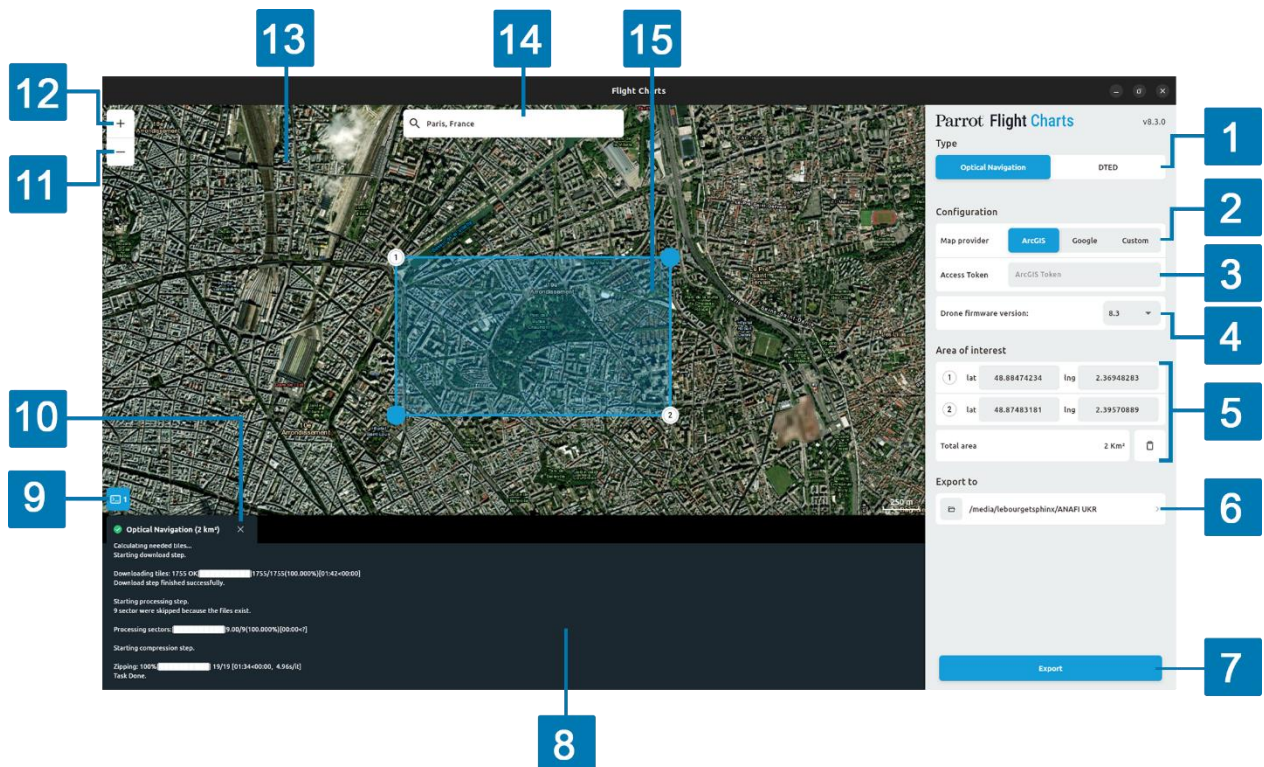

Figure 28: FlightCharts interface
1. Select the map **Type** (No. 1 in Figure 28) to create either an **Optical Navigation** map, or a **DTED** map.
- i. Under **Configuration**, select your **Map provider** (No. 2 in Figure 28) from either **ArcGIS**, **Google**, or **Custom**.
2. Select the **Drone firmware version** from the drop-down menu (No. 4 in Figure 28).
3. In the **Satellite basemap** interface (No. 12 in Figure 28), left-click and drag to the area of interest.
4. Zoom in or out using the zoom buttons (No. 10 & No. 11 in Figure 28) or the mouse scroll wheel.
5. Click the **Satellite basemap** (No. 12 in Figure 28) to create a bounding box.
The **Area of interest** geographic information (No. 5 in Figure 28) for the bounding box you created in step 5 and 6 displays on the right-hand side:
7. Click **Export** (No. 7 in Figure 28).
The **Logs** box opens (No. 8 in Figure 28). The Logs box indicates in percentages: